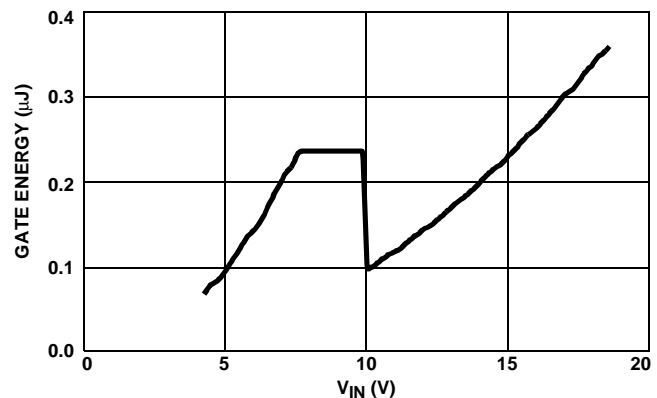

FIGURE 13. MOSFET GATE ENERGY CHARACTERISTICS vs INPUT VOLTAGE
The gate drive power is a function of the MOSFETs gate charge, voltage and switching frequency. Figure 13 shows the combined gate energy required by the internal MOSFETs with the charge pump characteristics. To determine the total bias power:
- 1) Multiply the value in Figure 13 by the switching frequency.